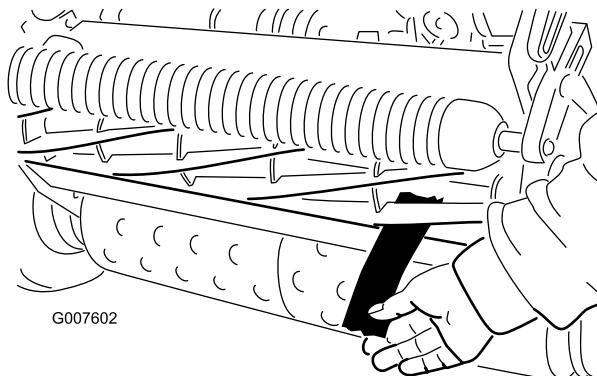

Figure 50
4. On one end of the front side of the reel, insert a long strip of newspaper between the reel and bedknife (Figure 50). While slowly rotating the reel forward, turn the bedbar adjusting screw clockwise (on the same end of the reel, one click at a time, until the paper is pinched lightly, when inserted from the front, parallel
6. After the adjustment is accomplished, check to see if the reel can pinch paper when inserted from the front and cut paper when inserted at a right angle to the bedknife (Figure 50). It should be possible to cut paper with minimum contact between the bedknife and the reel blades. Should excessive reel drag be evident (more than 0.79 N·m (7 inch-lb)), either backlap or grind the cutting unit to achieve the sharp edges needed for precision cutting; refer to the *Toro Reel Sharpening Manual*.